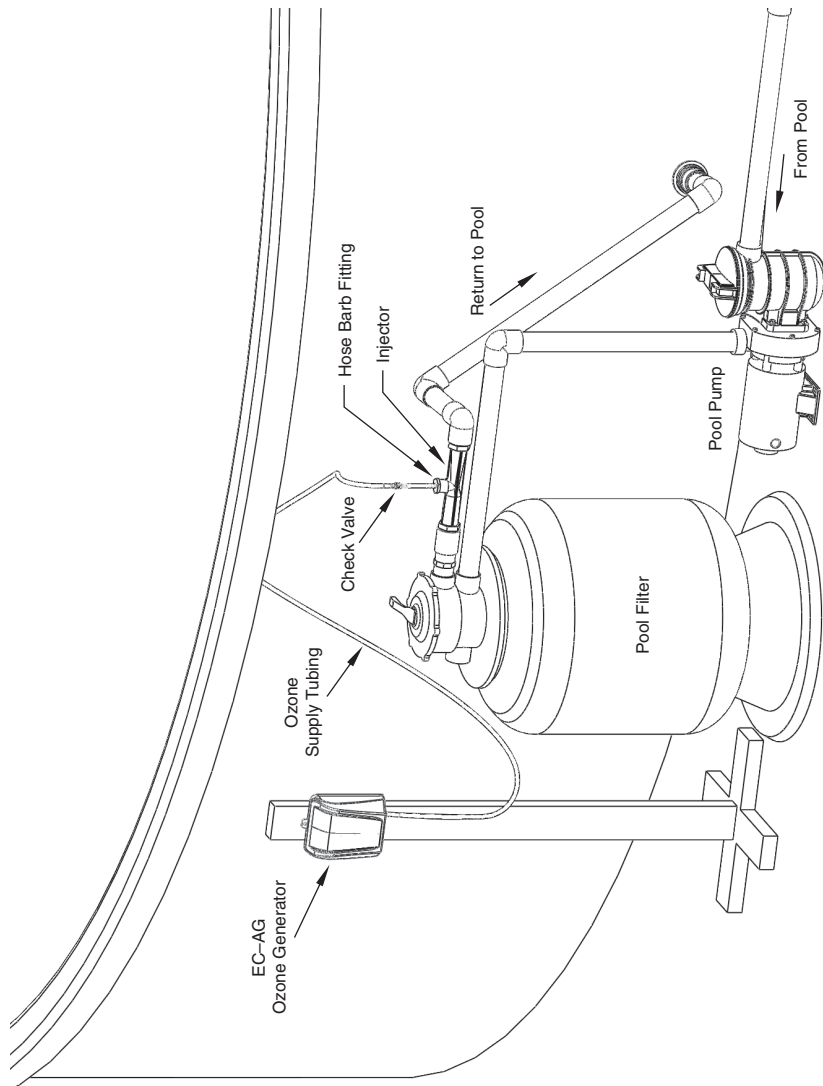

Figure 2: Typical Injector Installation (Pool without heater)
- Note:** Figure 2 and the instructions below describe Injector installation immediately after the filter. For pools equipped with a heater, the Injector must be installed AFTER the heater. The fittings provided may be used to connect the Injector directly to the wall of the pool or the outlet of the heater.